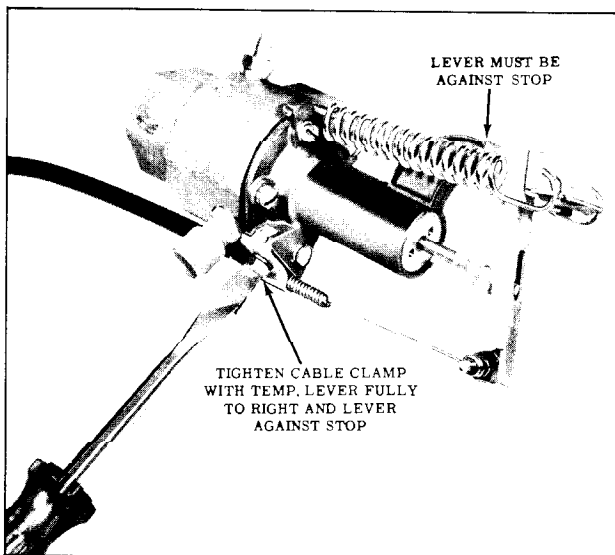

Fig. 14-2 Cable Adjustment
- Position temperature lever fully to the right and loosen cable clamp screw on the valve. (Fig. 14-2)